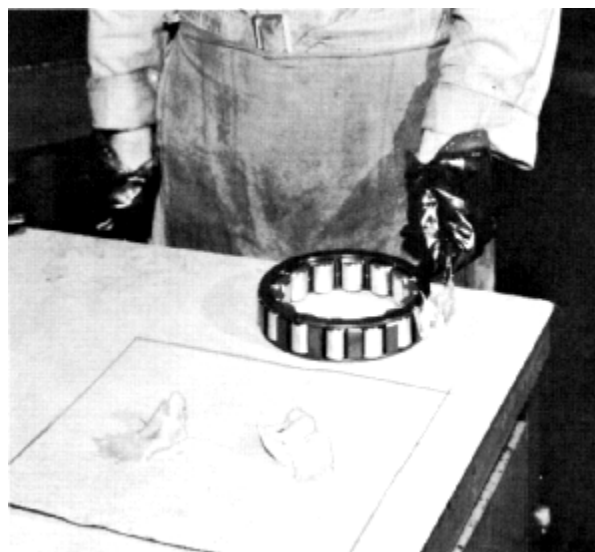

Fig. 8 - Coating O.D. Of Roller And Gage Assembly
1. Remove roller-cage assembly from outer race and with spatula, work grease into O.D. of the roller-cage assembly, Fig. 8, coating the rollers and spreading grease into cage pockets.
Assemble the bearing as shown in Figs. 8 and 9. Lightly coat the inner races before assembling the outer race and roller-cage assembly.